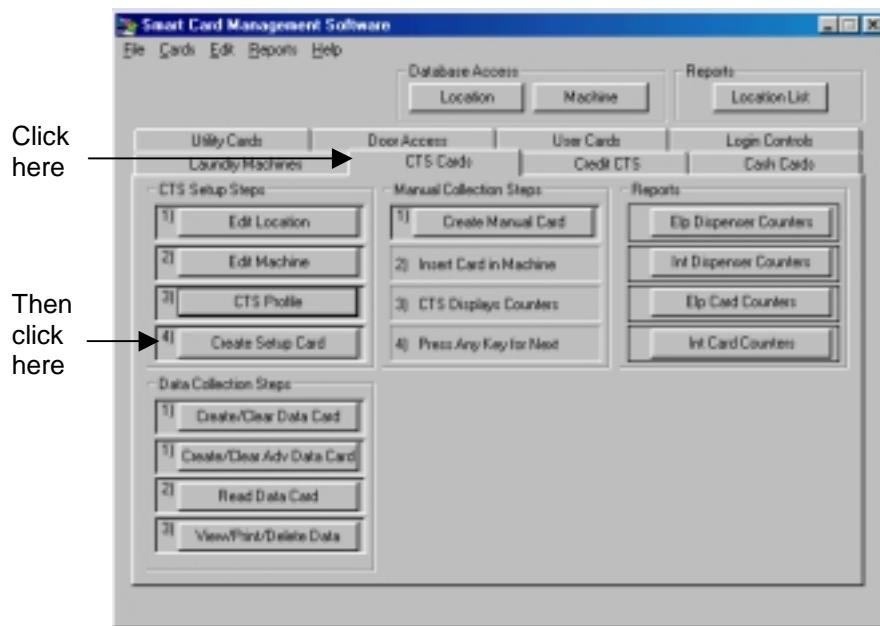

Figure 3.16 Creating a CTS Setup Card
1. Click the **CTS Cards** tab in the main screen (Figure 3.16).